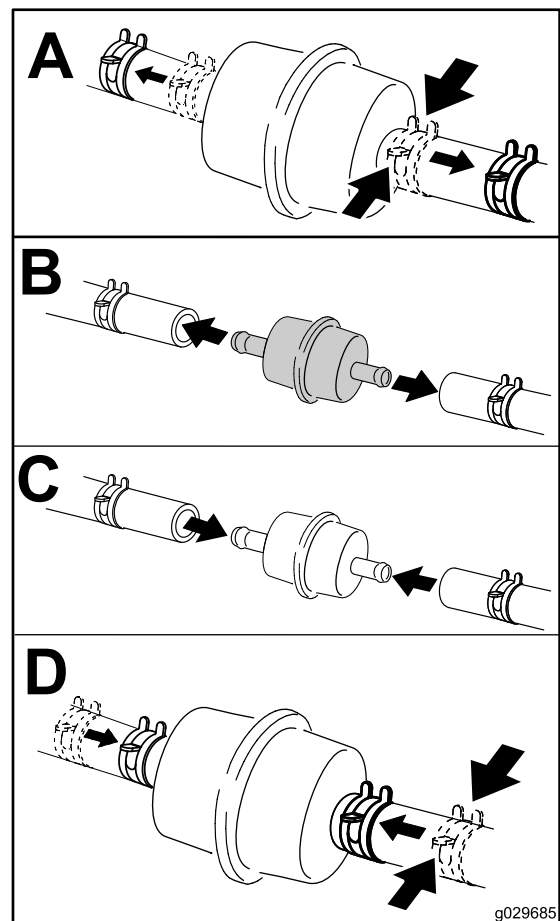

Figure 59
4. Replace the fuel filter as shown in Figure 59.